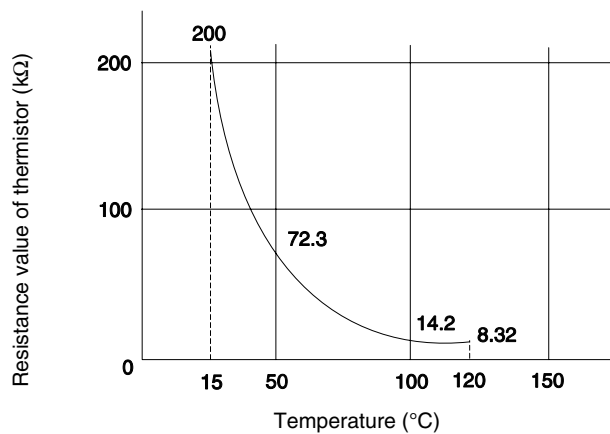

Fig. 10.1. Resistance values of the thermistor for overheating protection of the discharge gas
2. If the temperature of the upper part of the compressor exceeds 127°C for 10 minutes, the compressor will stop. Even if an electronic expansion valve opens in that situation, the compressor will also stop. This way, the compressor is protected. Resistance values of the thermistor are shown in Fig. 10.1.